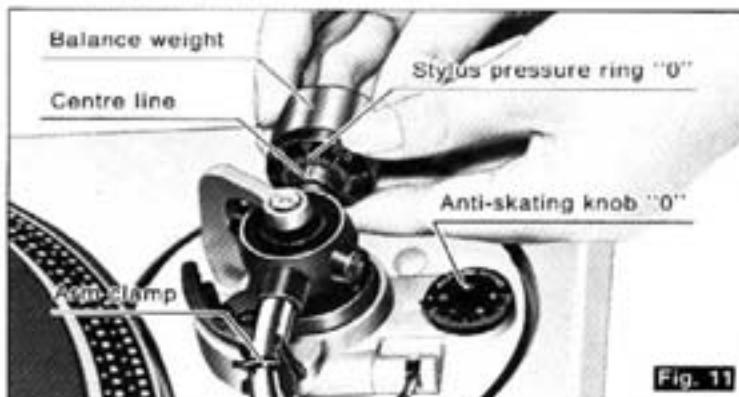

Fig. 11
5. After the tonearm is horizontally balanced, temporarily fix the tonearm by the arm clamp. (Refer to Fig. 11). Hold the balance weight stationary with fingers as shown in Fig. 11 and rotate only the stylus pressure ring to bring the numeral "0" of the ring into alignment with the centre line on the tonearm rear shaft. (The adjustment of the horizontal balance is now completed.)
- 2) Ensure that the anti-skating knob is at "0" position. (See Fig. 11).